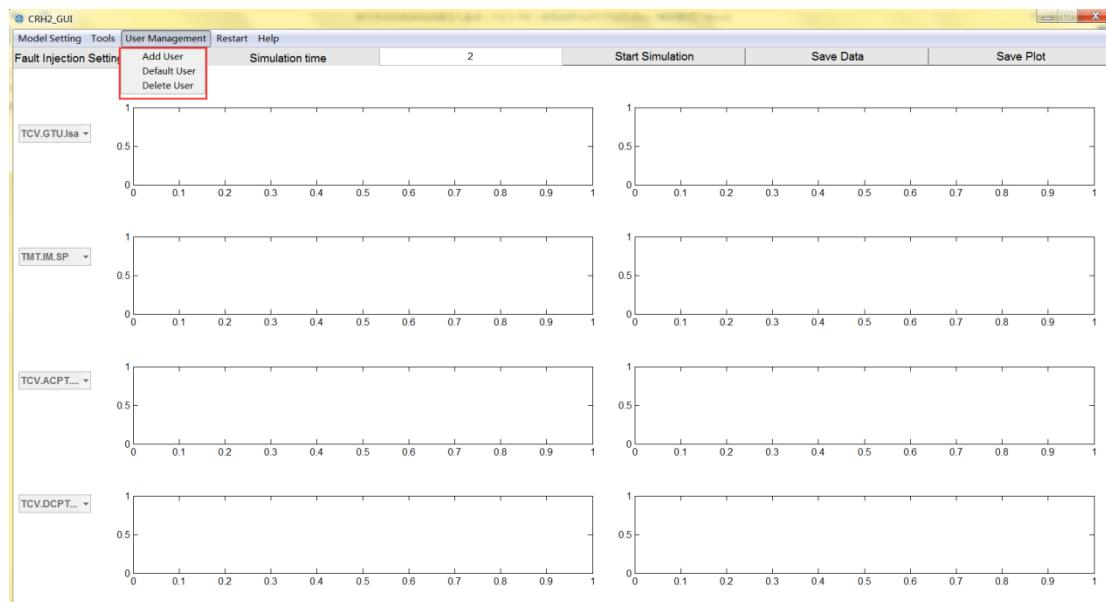

Fig. 18 User management
3) Click the ‘User Management’ drop-down menu in the main menu bar. There are three options: ‘Add User’, ‘Default User’ and ‘Delete User’, as shown in Fig. 18. The users can choose one of the three options to add or delete or default user account. If